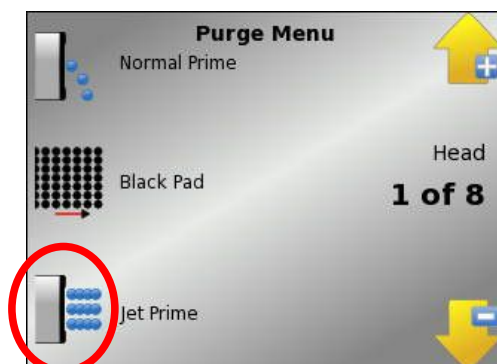

Fig. 18: MasterPad prime menu
- To ink up the circuit "from dry" the "Jet" prime is used first (Fig. 18).